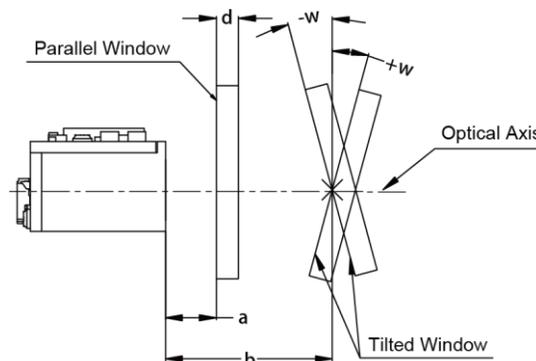

Figure 2-5
- **Parallel window** – Primary option for imager engines. The following window distance requirements should be satisfied: The maximum distance is measured from the front of the engine housing to the furthest surface of the window. In order to reach better reading performance, the distance from the front of the engine housing to the nearest surface of the window should not exceed **a** ($a=1\text{mm}$) and the distance from the front of the engine housing to the furthest surface of the window should not exceed **a+d** ($a=1\text{mm}$, $d=2\text{mm}$), as shown in **Figure 2-5**.